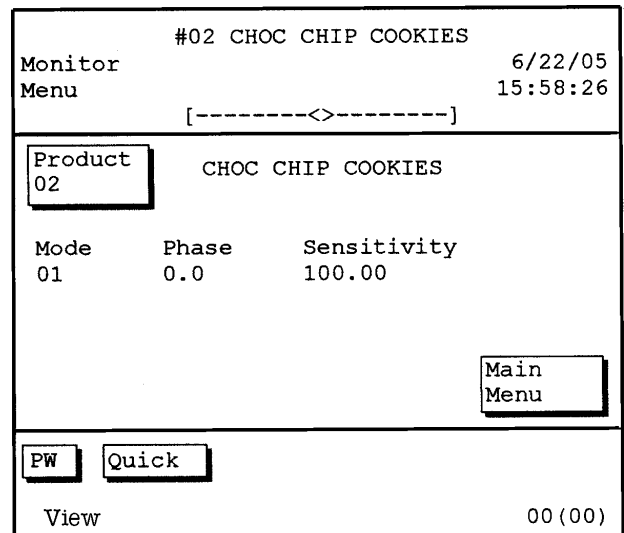

FIGURE 4
When power is applied, a series of code numbers will appear on the screen as the detector goes through a self check procedure (approximately 10 seconds). After the self-check, the screen will display the Monitor Menu (see Figure 4) and the message 'Please Wait' will appear at the top of the screen.
- The Monitor Menu shown in Figure 4 does not appear.